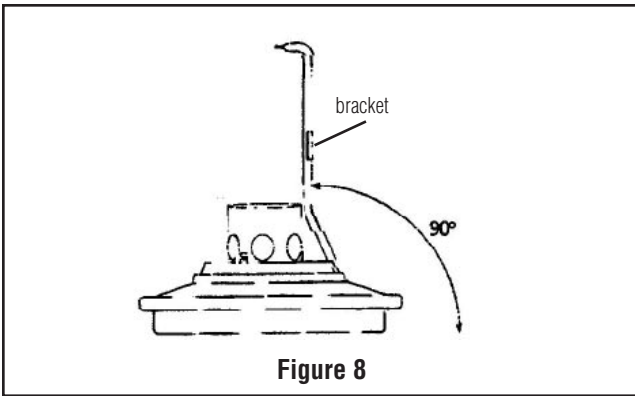

Figure 8
- Place one of the two empty support arms into the float. Verify the section of the support arm with the bracket is perpendicular to the top of the float (see Figure 8). If the support arm is not perpendicular, use a different locating slot in the throat and repeat until the best possible slot is found. Remove the support arm.